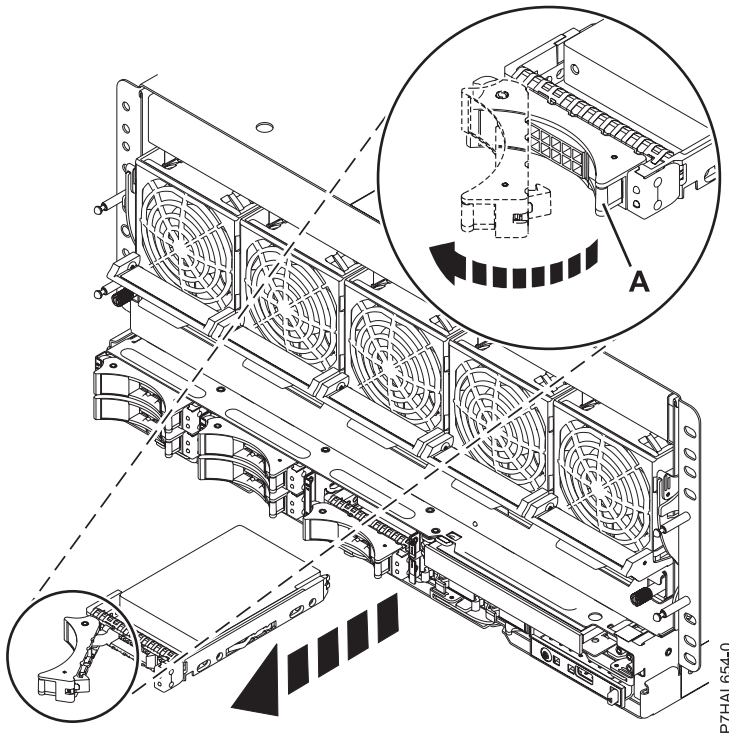

Figure 25. Removing a disk drive from the system
1. Unlock the drive handle by squeezing it and pulling it out toward you, as shown in Figure 25 on page 38.